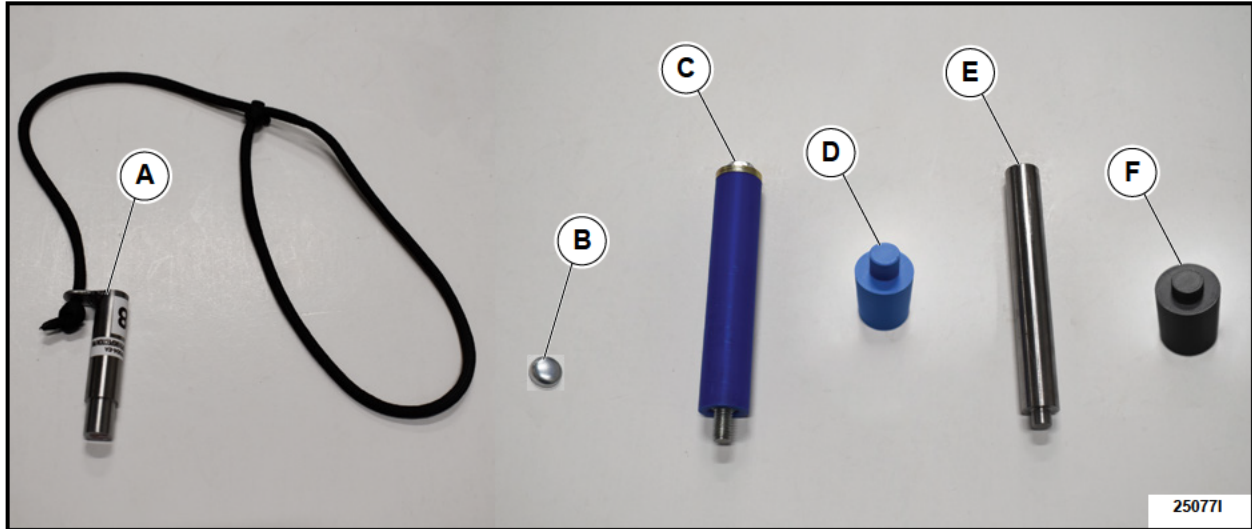

FIGURE 13
** For tool identification, See Figure 13 on page 10 for contents and descriptions of 25S30 (and 24S70) Inspection and Repair Kit that is required to proceed.
NOTE: Wipe down the inspection pin (Gauge 1) (Item "A" Figure 13 on Page 10) before use.